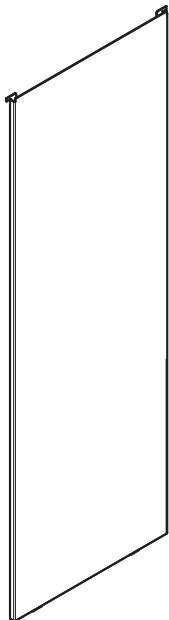
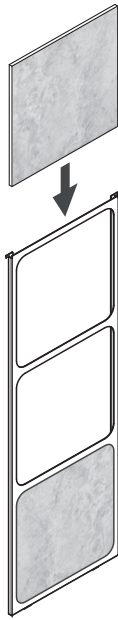

Figure 16.1
Figure 16.2
Your appliance ships with two different side options, one is a solid side panel (**Figure 16.1**) and tile side panel (**Figure 16.2**). There are two of each and no left or right side, these can be changed at anytime.
2. Stack non-combustible material tiles in tile frame as shown in **Figure 16.2**.